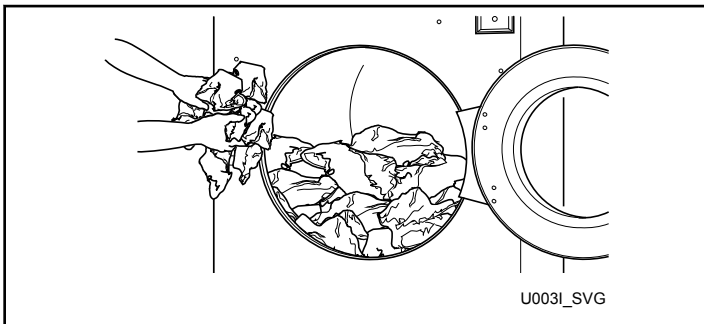

Figure 42
3. Load to capacity whenever possible. DO NOT OVERLOAD. Refer to *Figure 42*.